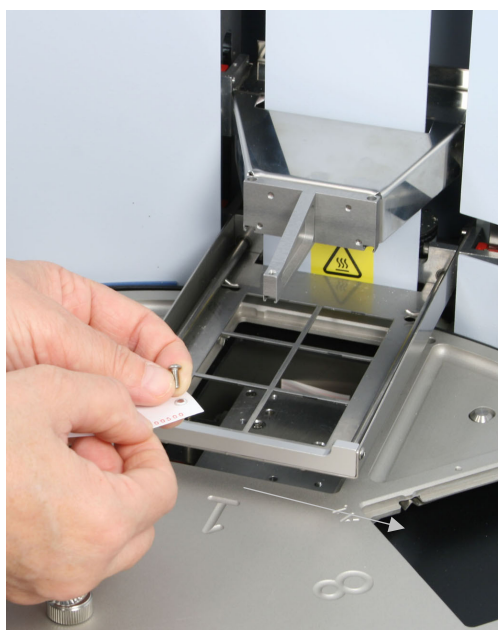

Figure 3–26. Refitting the transport lock of the heating block (A)
4. Insert the transport lock screw into the label and refit the transport lock of the heating block into its place (Figure 3–26).